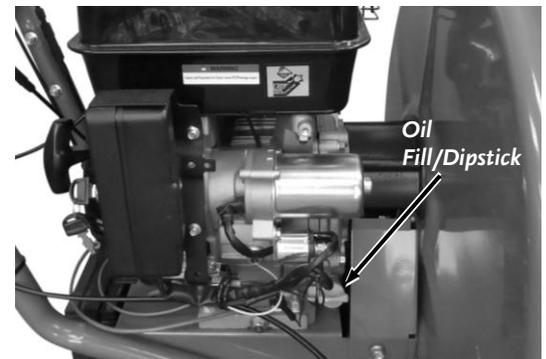

Figure 13
- SAE 30 High Detergent (HD) Oil (for winter use, use SAE 5W – 30W)
1. Remove the Oil Dipstick/Fill Cap and vacuum the oil from the Engine through the Dipstick Tube using the recommended oil drainer (**Figure 13**).